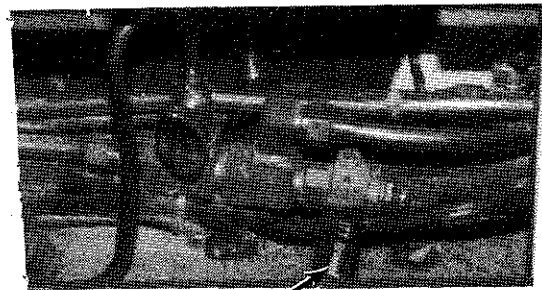

Figure 5-5. Lavatory Plumbing
3. Open the low-point drain valve located beneath the lavatory, figure 5-5.